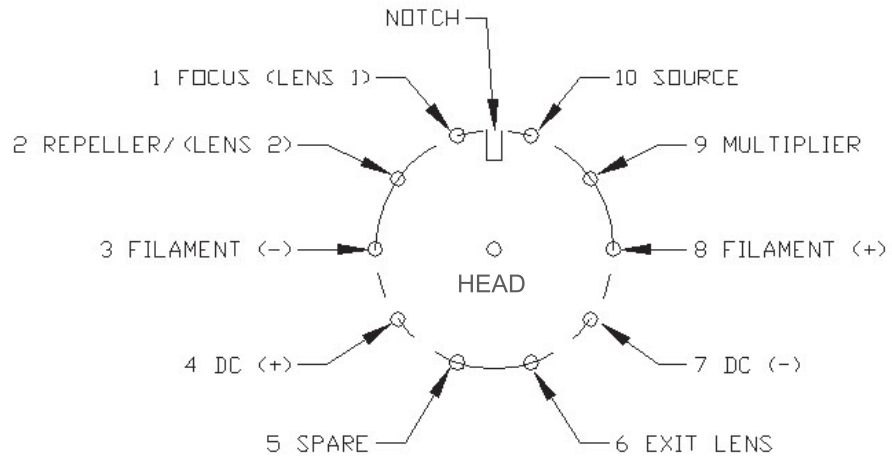

Figure 5-4.
- The check should be performed on the pins on the atmosphere side of the unit (Figure 5-4).